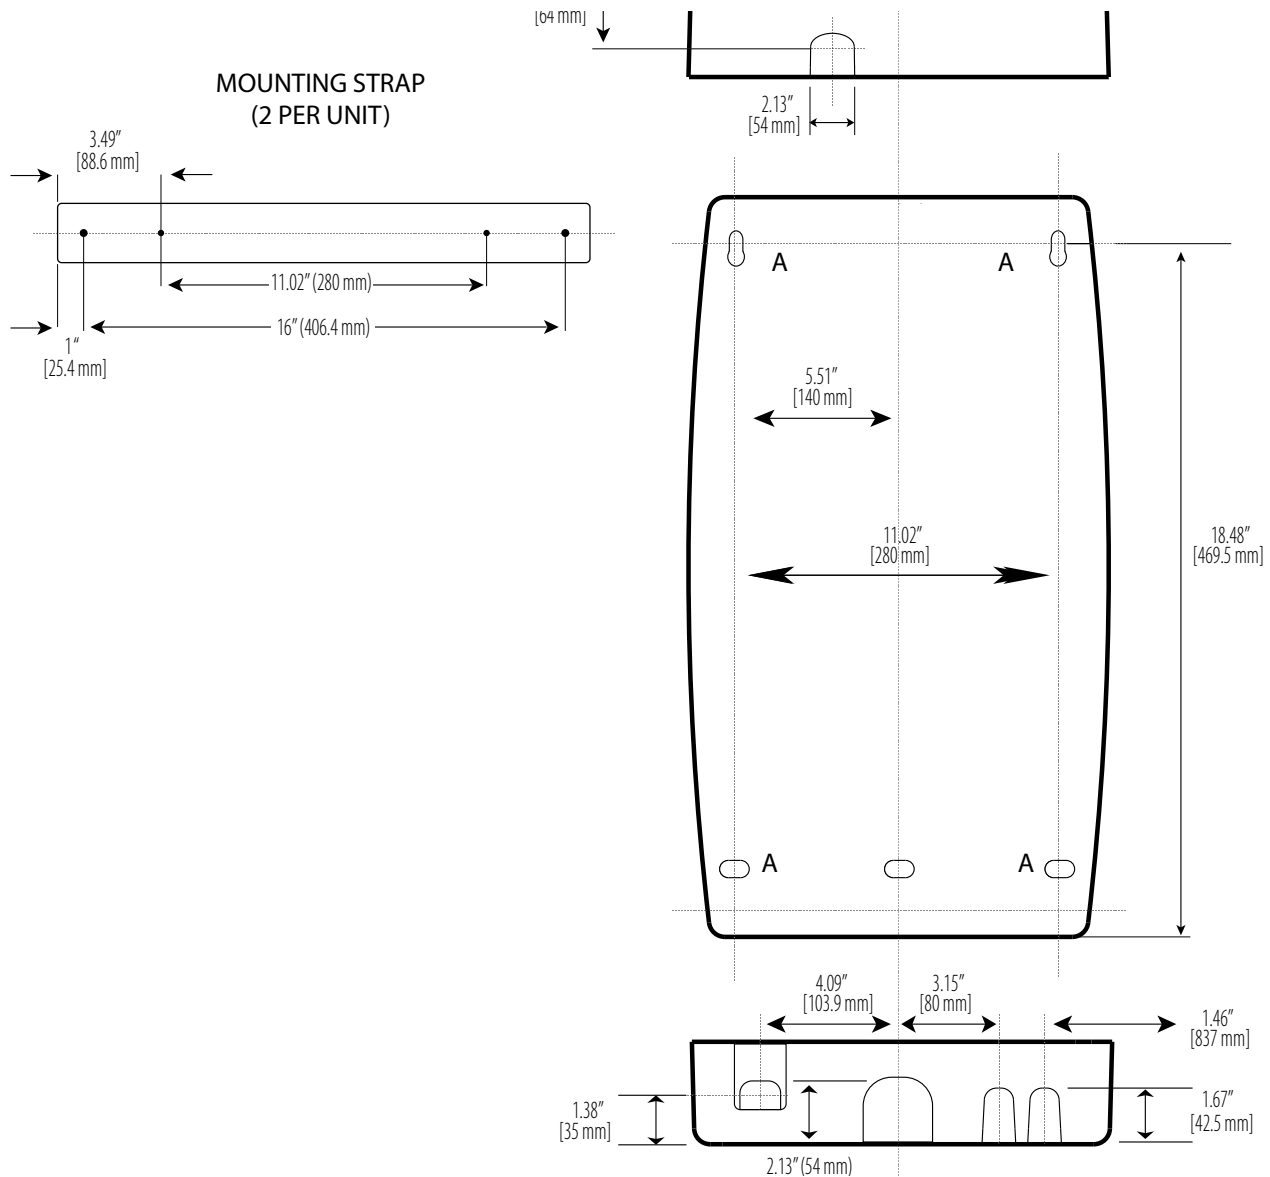

Fig. 3.c
- **Option 1:** Attach directly to a wall using the supplied screws and anchors. Use the two inner holes of the supplied mounting strap as a template for the humidifier mounting holes (marked by "A" in Fig. 3.c). Once marked, the two top screws can be installed first and then the steam unit can be hung on the screws using the keyhole slots.
- **Option 2:** Attach to studs using the supplied mounting straps (Fig. 3.c). The mounting straps can be used to span an open stud cavity or secured to studs through a finished wall. Secure the mounting straps to the studs using the two outer holes. Then secure the steam humidifier to the mounting straps using the two inner holes, which will align to the mounting holes in the steam unit.